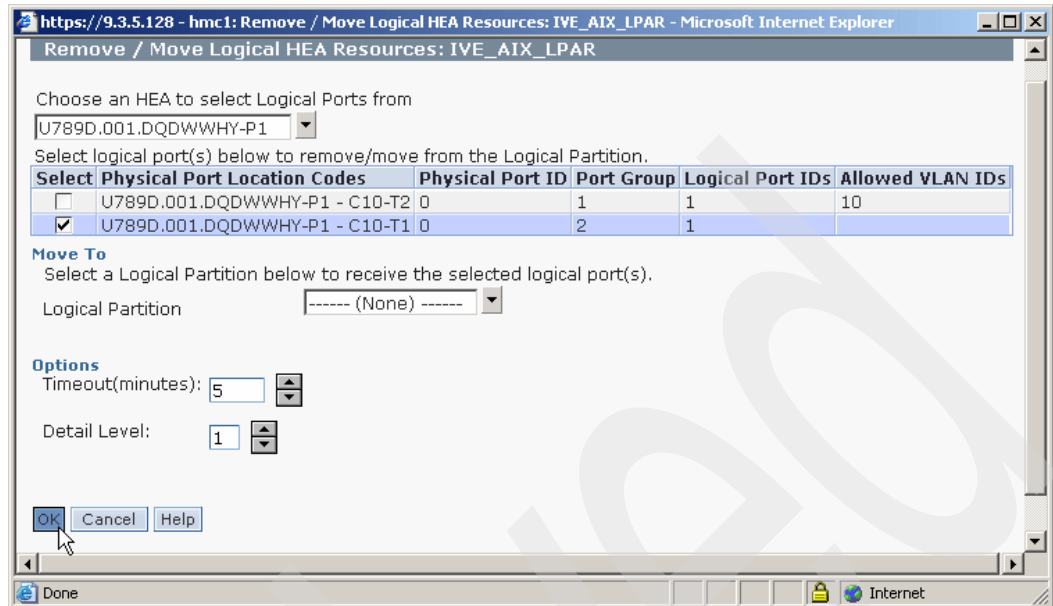

Figure 4-12 Third step to remove a logical port
- e. Click the **OK** button to complete the logical port removal, as shown in Figure 4-12.